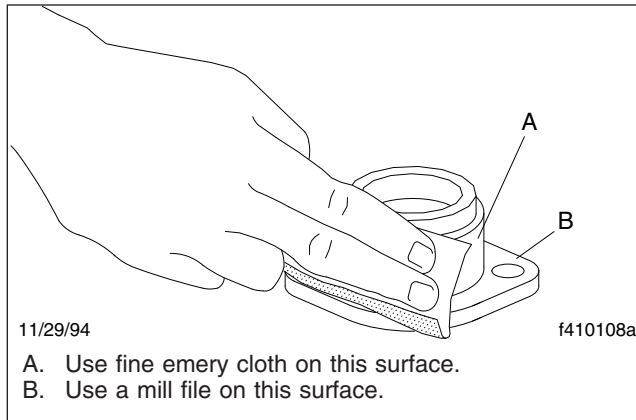
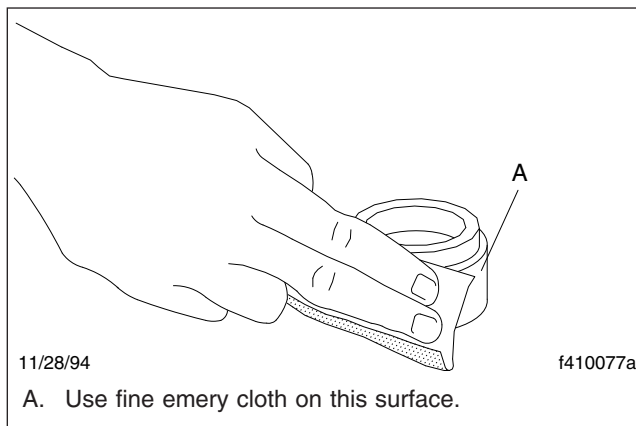

Fig. 12, Smoothing a Full-Round Yoke U-Joint Bearing Cup
Fig. 13, Smoothing a Half-Round Yoke U-Joint Bearing Cup
6. Check the underside of each bearing-cup plate for burrs or raised metal. Use a mill file to remove any burrs or raised metal. See Fig. 12.
7. Using fine emery cloth, smooth and clean the outside surfaces of all bearing cups. See Fig. 12 and Fig. 13.